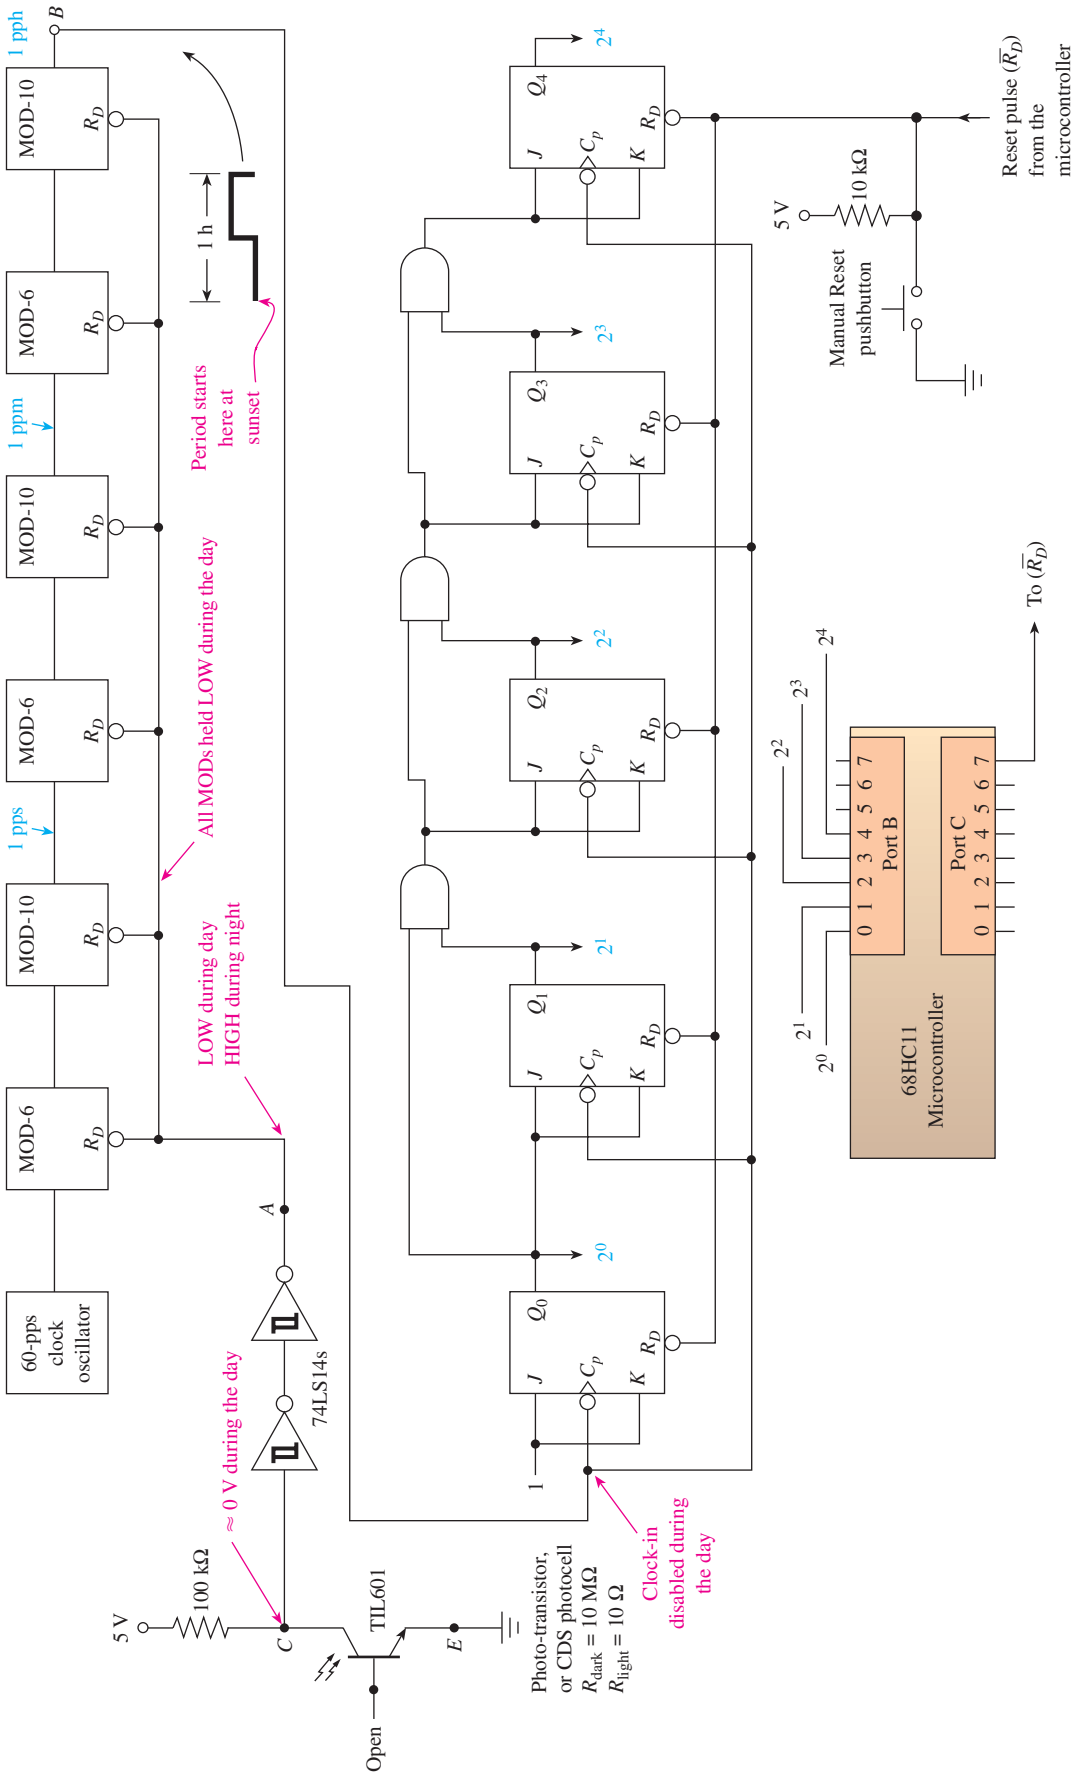

Figure 55 System design solution for the “hours of darkness” counter.
Solution: You decide to use a synchronous counter but realize that it may be dark outside for as many as 18 h per day. A 4-bit counter will not count high enough, so first you have to come up with the 5-bit synchronous counter design that is shown in Figure 55. That was not hard; you just had to add one more AND gate and a flip-flop to a 4-bit counter.
From analog electronics, you remembered that a phototransistor has varying resistance from collector to emitter, depending on how much light strikes it. The **phototransistor** that you decide to use has a resistance of $10\text{ M}\Omega$ when it is in the dark and $10\ \Omega$ when it is in the daylight. Your final circuit design is shown in Figure 55.
Explanation of Figure 55: Let's start with the 5-bit synchronous counter. With the addition of the last AND gate and flip-flop, it will be capable of counting from 0 up to 31 (MOD-32). The manual Reset push button, when depressed, will Reset the counter to zero.
21. The 5-bit synchronous counter in Figure 55 counts continuously, day and night, but is ignored by the microcontroller during the day. True or false?